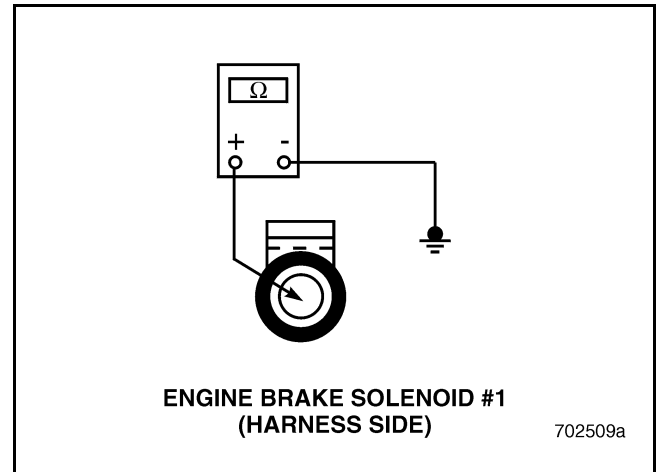

Figure 424
3. Check for continuity between the terminal of Engine Brake Solenoid #1 and a good ground (see Figure 424).